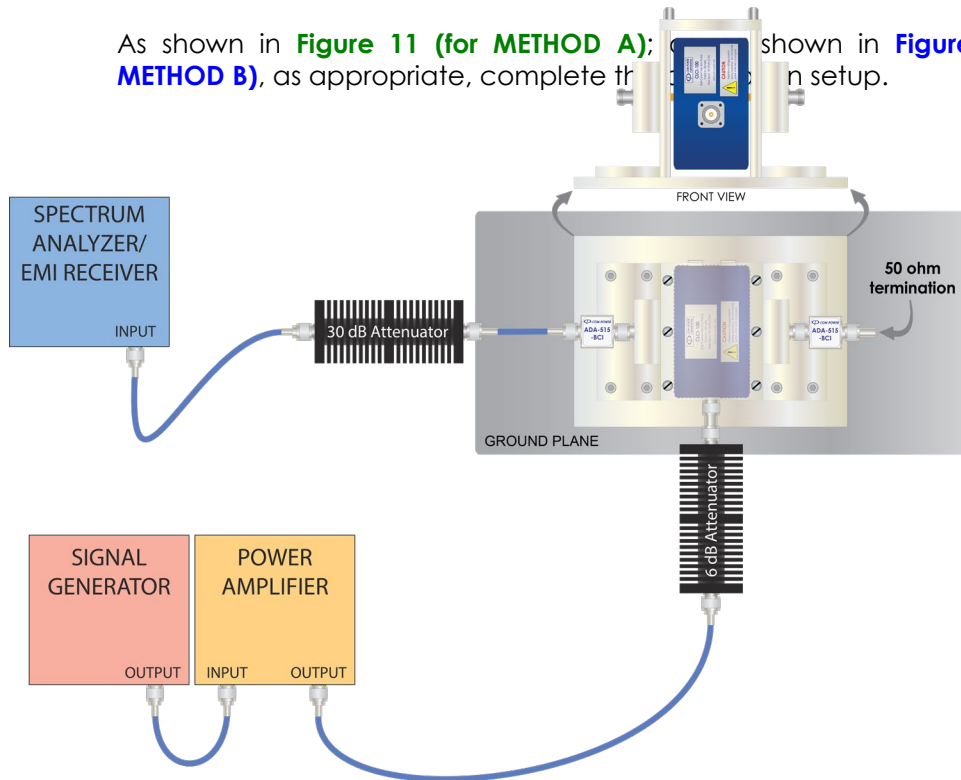
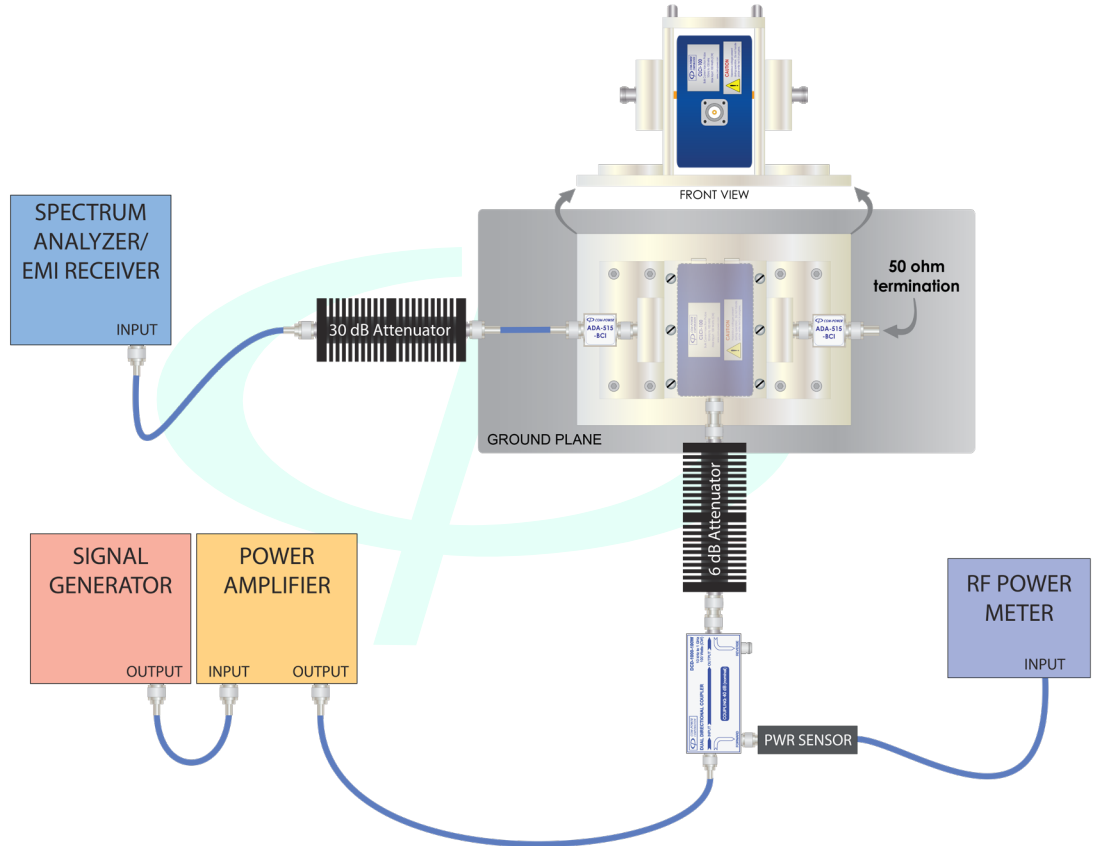

FIGURE 11 - IEC 61000-4-6 (Method A) Test Level Calibration Setup
FIGURE 12 - IEC 61000-4-6 (Method B) Test Level Calibration Setup
As shown in **Figure 11 (for METHOD A)**; or shown in **Figure 12 (for METHOD B)**, as appropriate, complete the test level calibration setup.
- 1) With the calibration test setup configured as shown in **Figure 11** or **Figure 12**, set the frequency of the signal generator to 150 kHz (without modulation).
- 6) Repeat steps (2) through (5) until the next frequency in the sequence would exceed the highest frequency of the test.